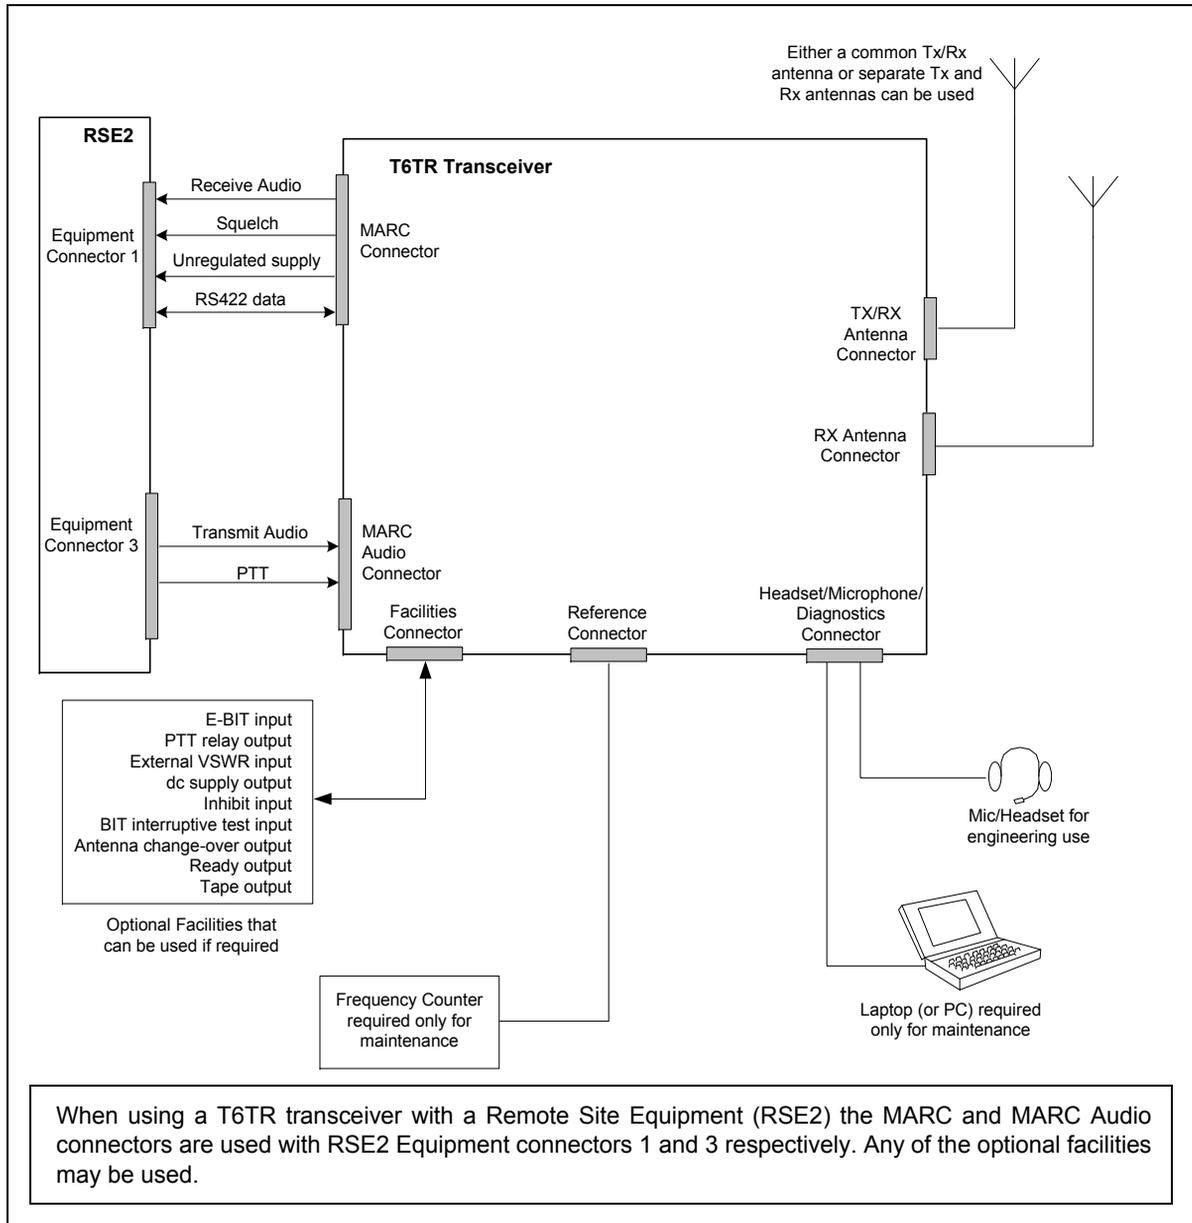
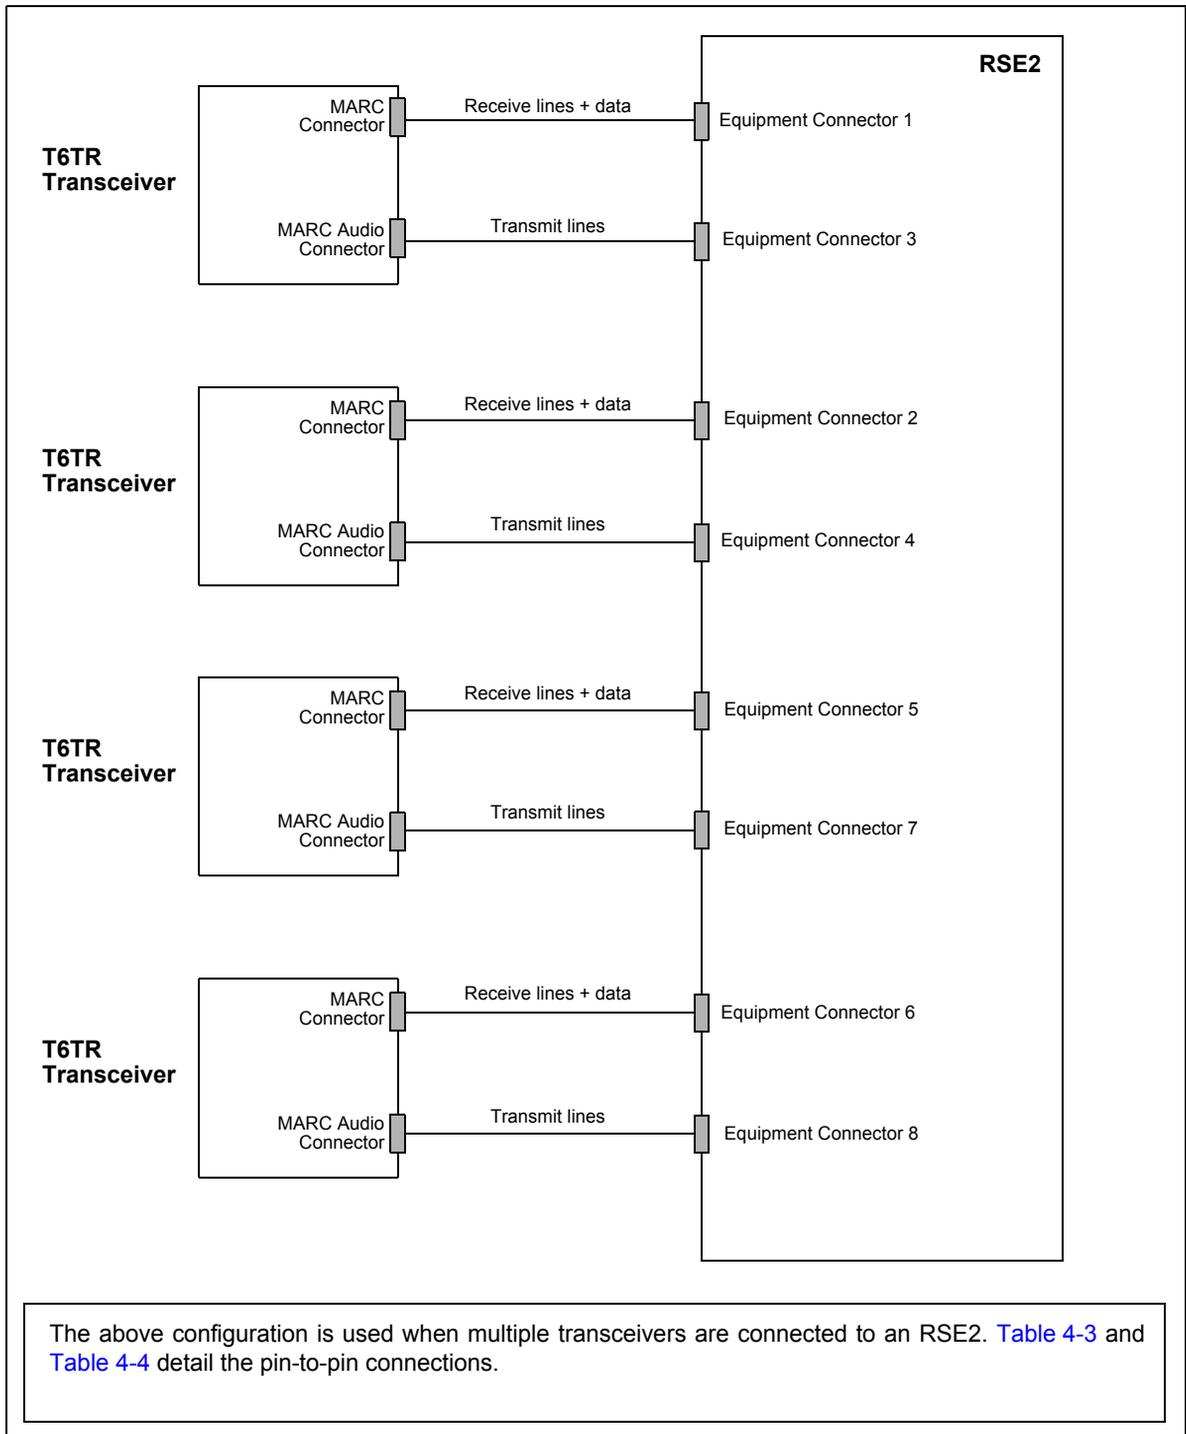

Fig 4-3 T6TR Transceiver Configured for use with an RSE2
Fig 4-4 Multiple Transceivers Connected to an RSE2
- T6TR transceiver configured for use with an RSE2 (see Fig 4-3 and Fig 4-4)